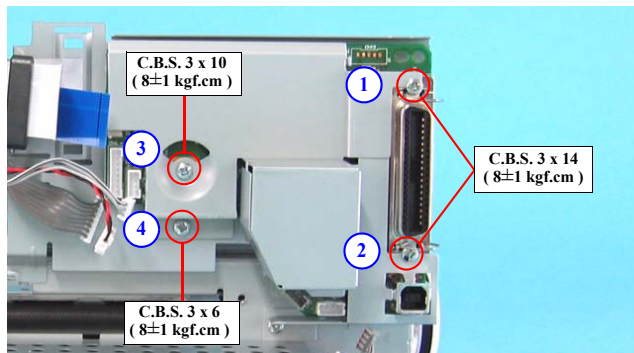

Figure 4-36. Removing Main Board (2)
- When installing the Main Board Unit to the Main Unit, Secure the screws in the order shown in Figure 4-36.